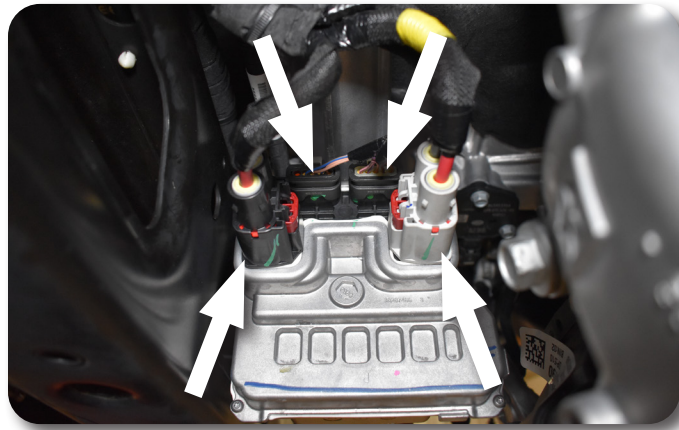

Figure 11
34. Disconnect the four plugs from the steering rack. Fig. 11